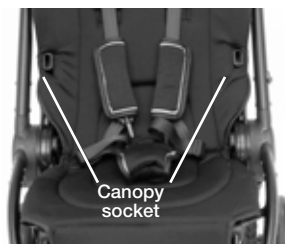

Fig. 5 (Front of seat)
- **To install canopy:** Locate canopy sockets at sides of stroller seat, and button snaps/cord notches at back of stroller seat (Fig. 5, 5A)
- **To adjust height:** Locate and squeeze the handlebar adjust trigger (Fig. 5)